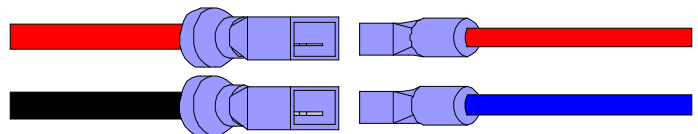

Figure 45. 35Ah Wire Harness to 8Ah Wire Harness
10. Connect the 35Ah wire harness to the 8Ah wire harness (red – red and black – blue). (Figure 45)